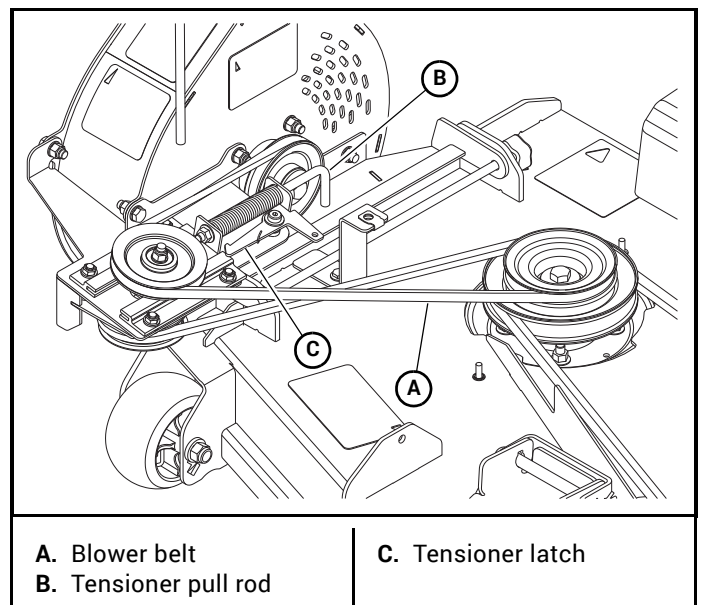

Figure 3-14
20. Release the tensioner latch to tension the belt. Figure 3-14